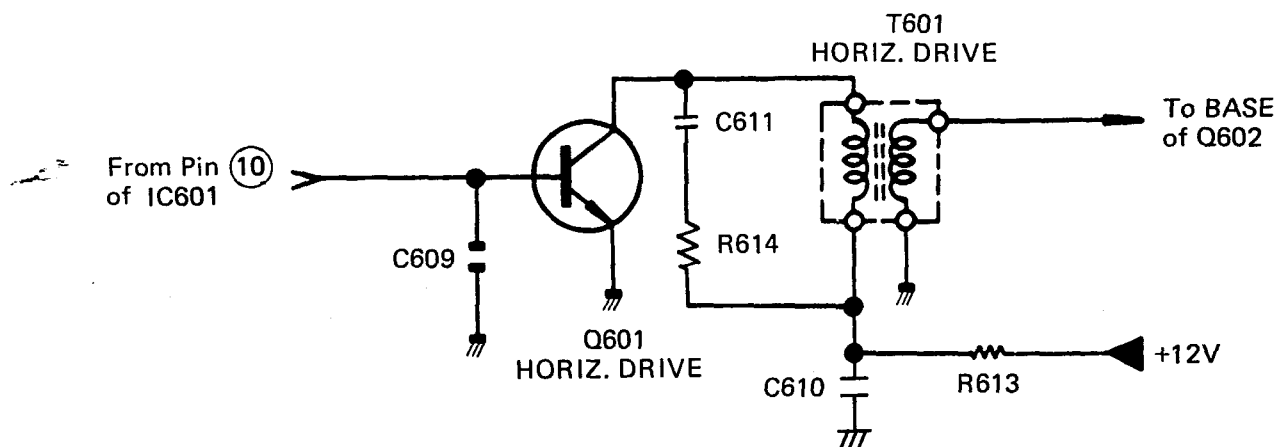
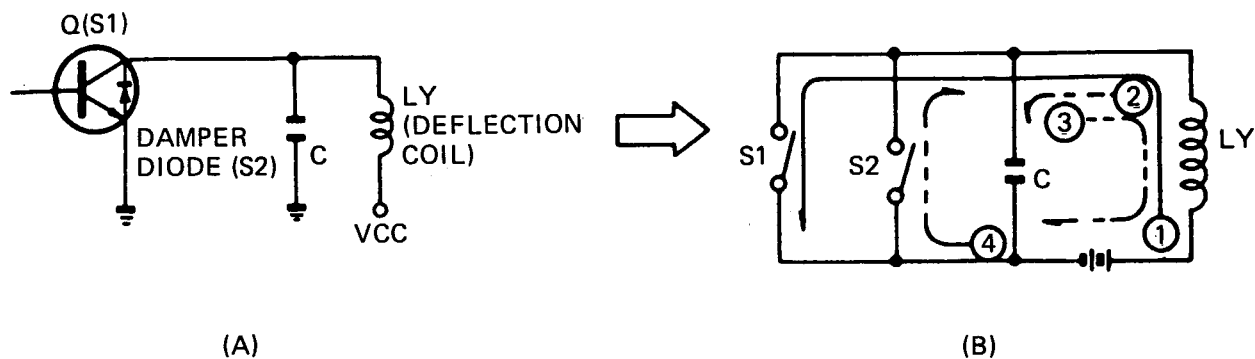

Figure 3. Horizontal Drive Circuit
Figure 4. Equivalent Circuit of Horizontal Output Circuit
5. Horizontal Output and HV Rectifier (Figs. 3—5)
Horizontal drive voltage, developed at pin (10) of the deflection processor integrated circuit (IC601), is amplified through the horizontal drive stage (Q601) and coupled to the base of the horizontal output circuit via the horizontal drive transformer (T601). Refer to Fig. 3. The horizontal output circuit generates the horizontal scan and high voltage to be applied to the picture tube. The function of the horizontal output stage (Q602) is to serve as a switch for the horizontal output circuit. Refer to Fig. 4.